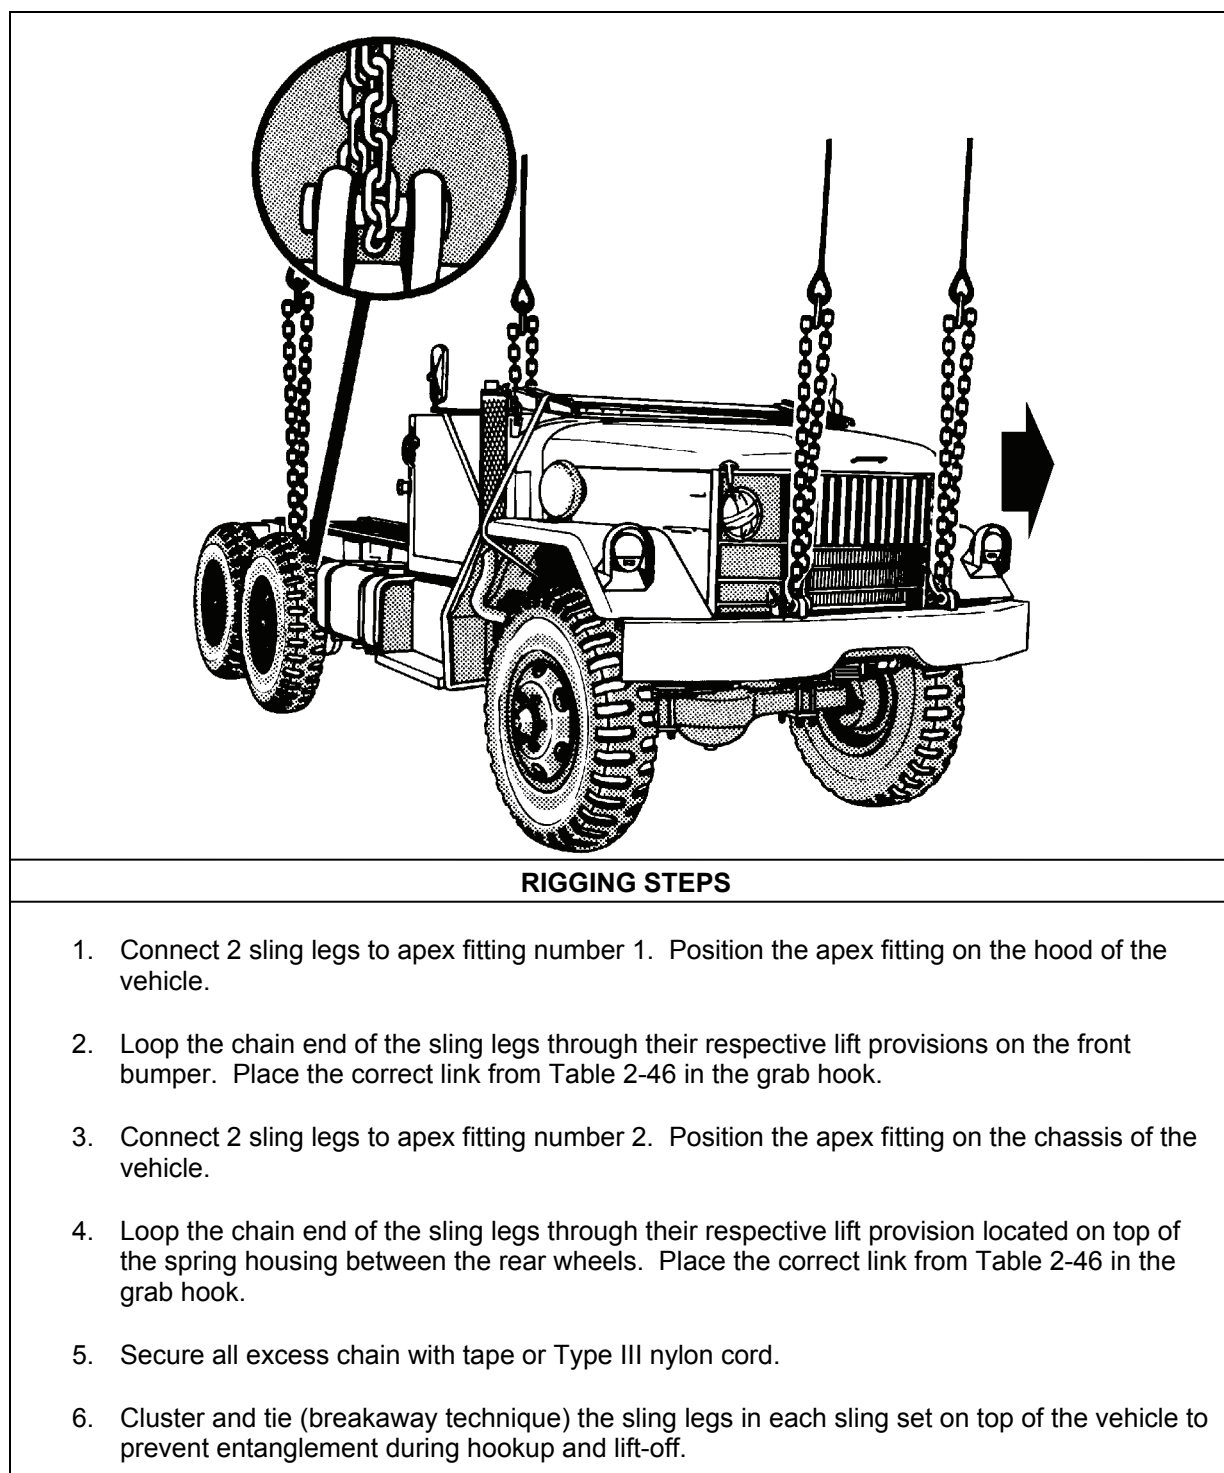

Figure 2-45. Truck, Cargo, 2 1/2-ton, M35A2 Modified
- **Rigging.** Rig the load according to the steps in Figure 2-45.